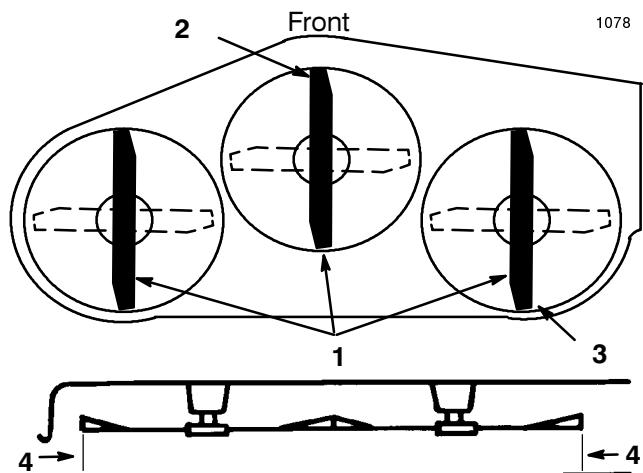

Figure 56
4. Move the height-of-cut lever (deck lift) into the "C" notch and carefully rotate the blades so they are facing front to rear (Fig. 56).
5. Measure between the tip of the front blade (Fig. 56) and the tip of the rear blade to the flat surface. If the front blade tip is not  $0-5/16"$  (0-8 mm) lower than the rear blade tip an adjustment front mower mounting plate at axle (Fig. 56).